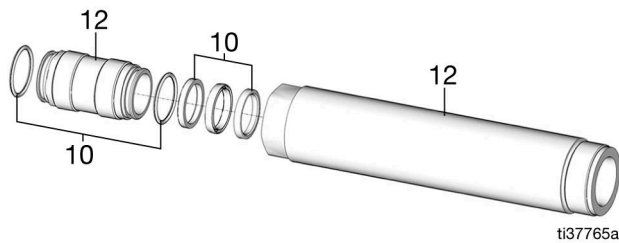

FIG. 29
- Remove the seal retainer (6) from the pump cylinder (2) (FIG. 29).
- Remove the priming seal (30) and the priming seal back-up rings (29) and replace with new parts from the seal repair kit (FIG. 29).
- Replace the o-rings (28) on the seal retainer (6) using the parts from the seal repair kit (FIG. 29).